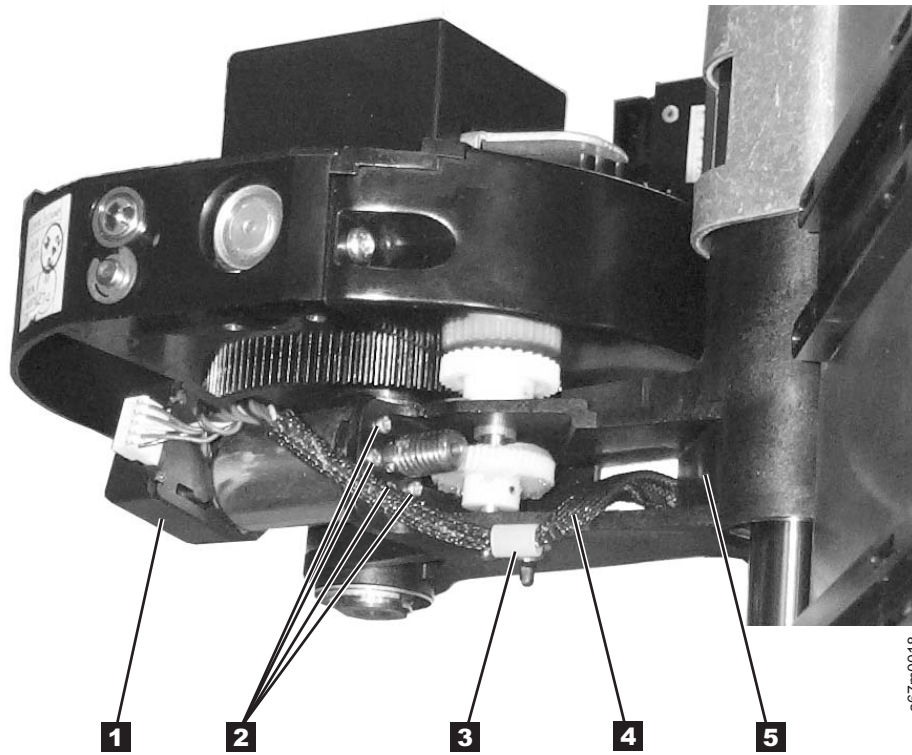
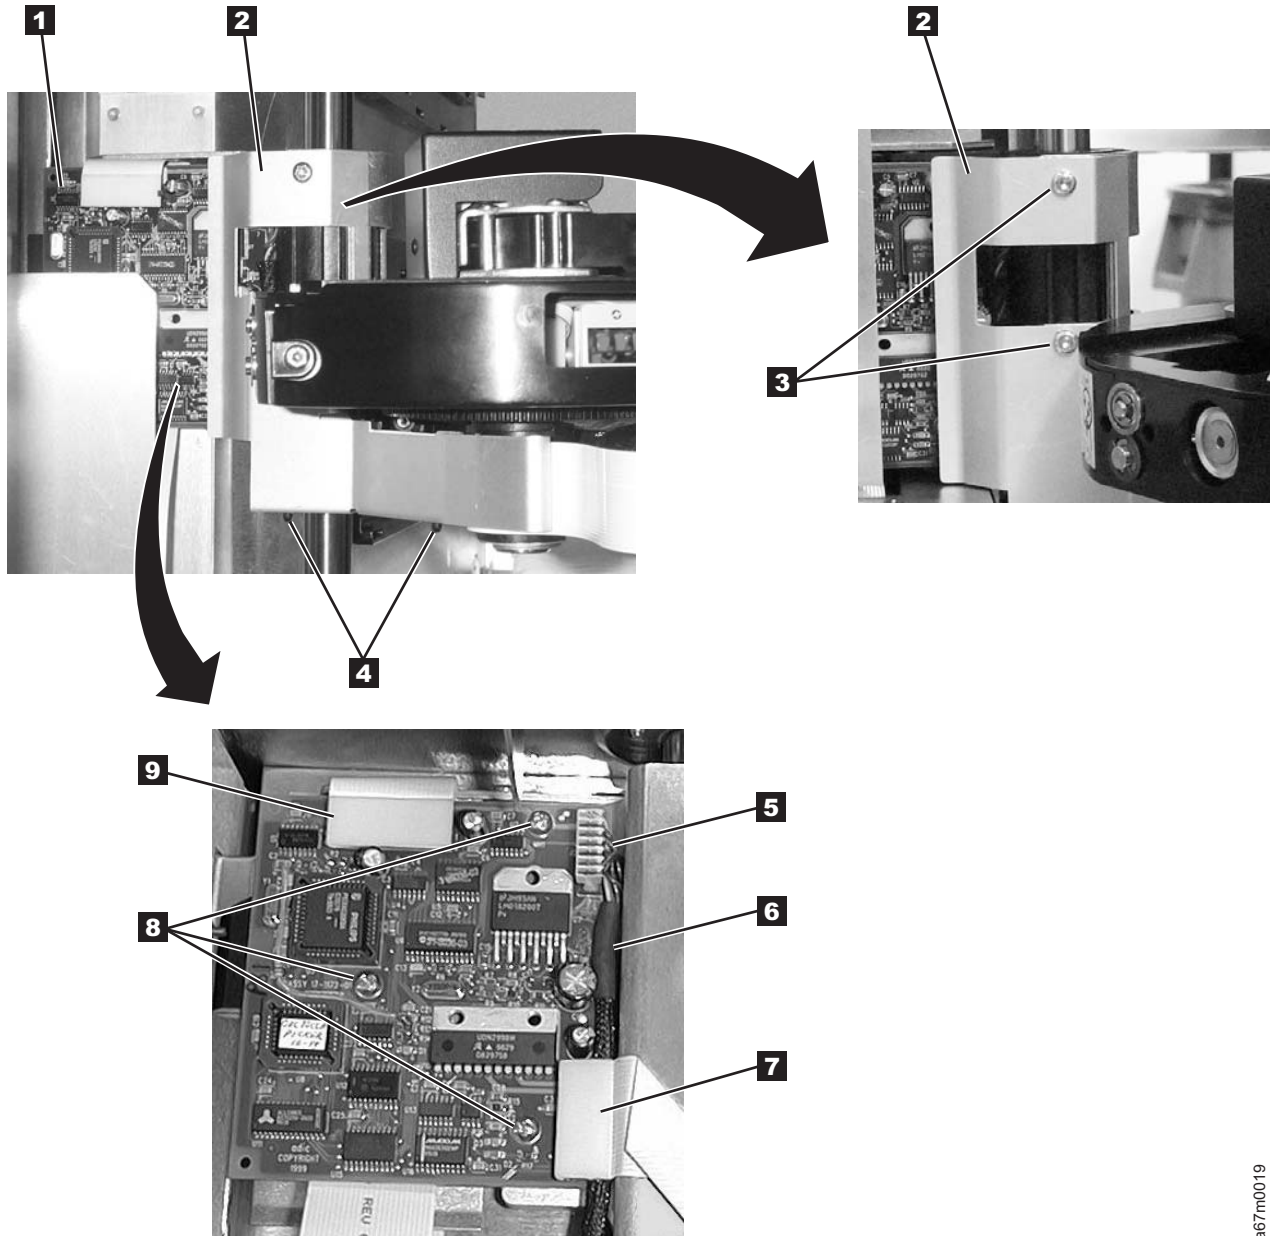

Figure 8-11. Rotary Axis Motor Removal and Replacement
Figure 8-12. Picker Control Board Removal and Replacement
See Figure 8-11 on page 8-15 and Figure 8-12 on page 8-17 for locations of components in the following procedure:
6. See Figure 8-12 on page 8-17. Remove two T20 Torx screws **3** holding the sheet metal covering the Picker Assembly Flex Cable. Remove the sheet metal.
7. See Figure 8-12 on page 8-17. At connector **5** disconnect the Rotary Axis Motor cable **6** from the Picker Control Board. See Figure 8-11 on page 8-15 push cable **4** through the hole in casting **5**.
10. Remove the four Phillips screws **2** which attach the Rotary Axis Motor to the casting **5**, see Figure 8-11 on page 8-15. Remove the motor assembly. **Note the position of the Rotary Axis Motor and then remove the motor from the gear.**
See Figure 8-12 on page 8-17 for locations of components in the following procedure: